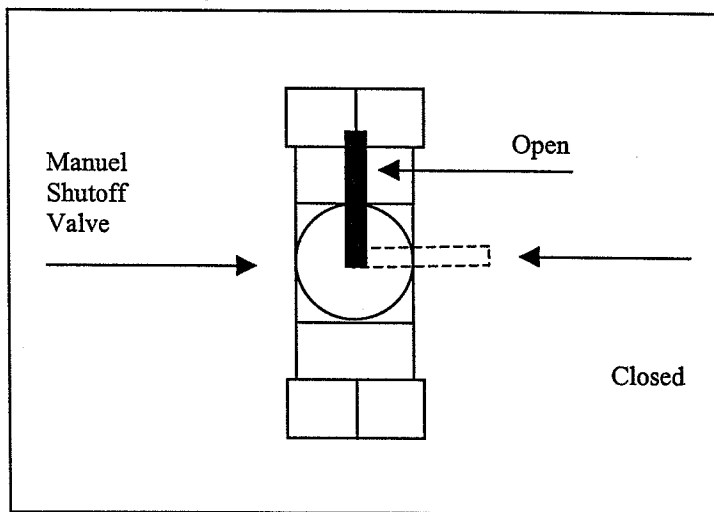
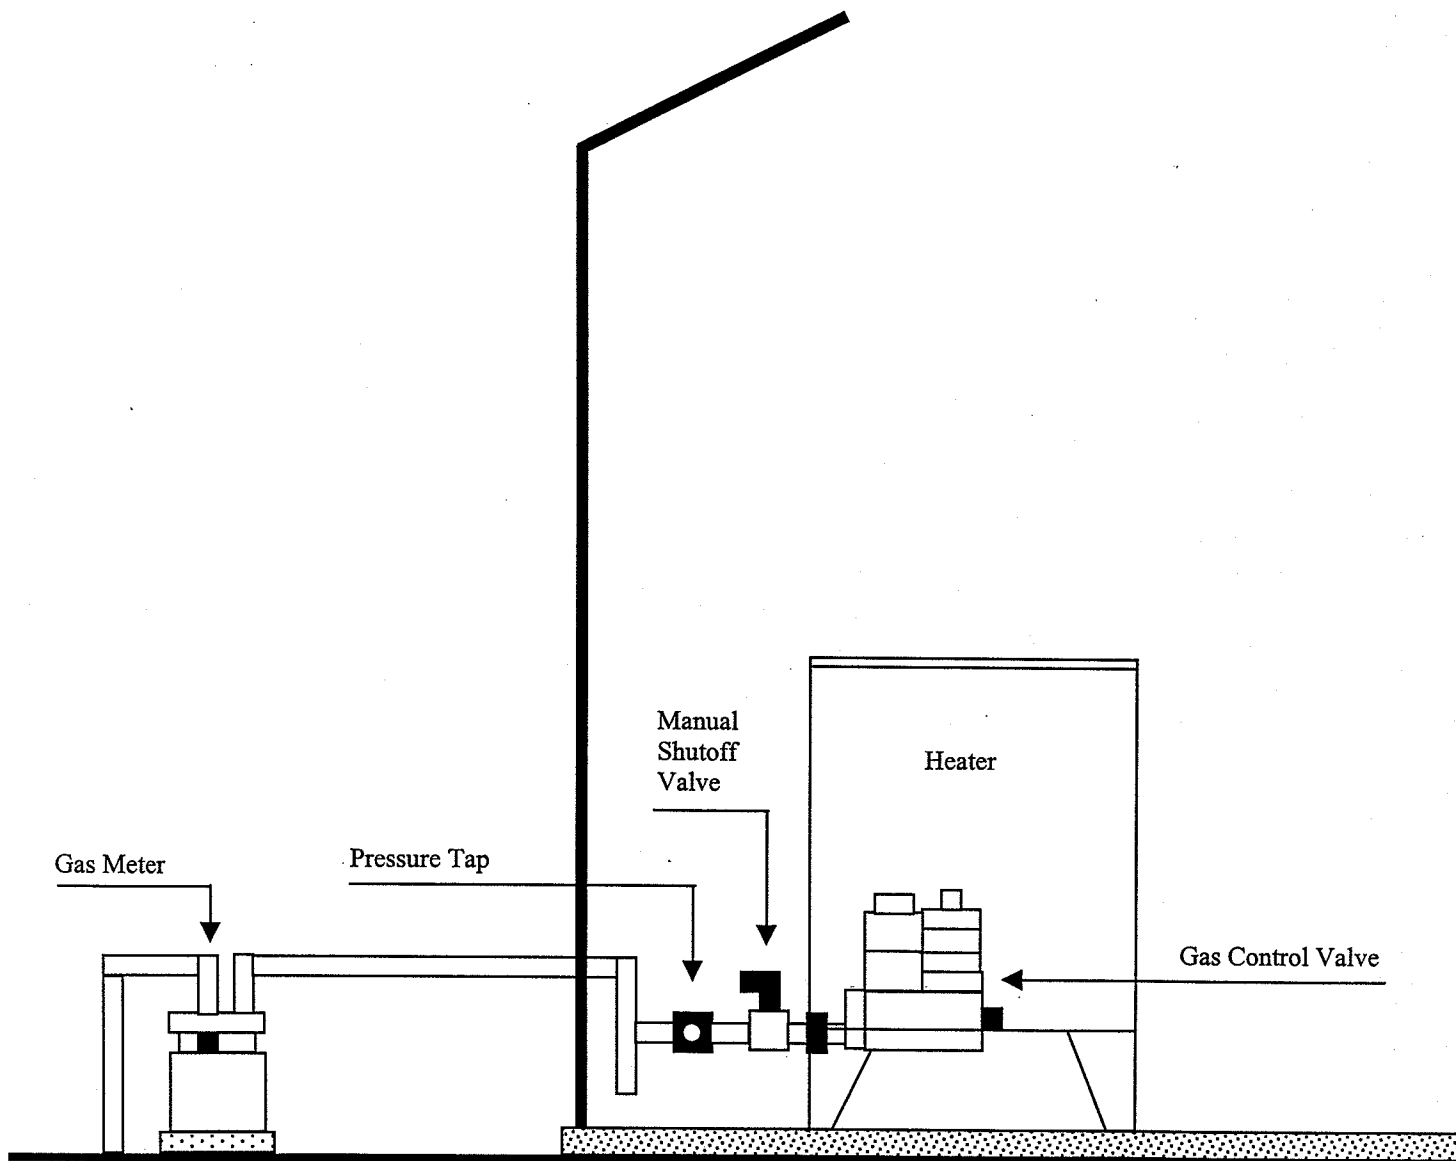

Figure 15
Figure 17
1. Close manual shutoff valve (see figure 15 and figure 17 page 22).
- a) Shut off the main gas supply at the shut off valve to the heater (see figure 15 page 22).